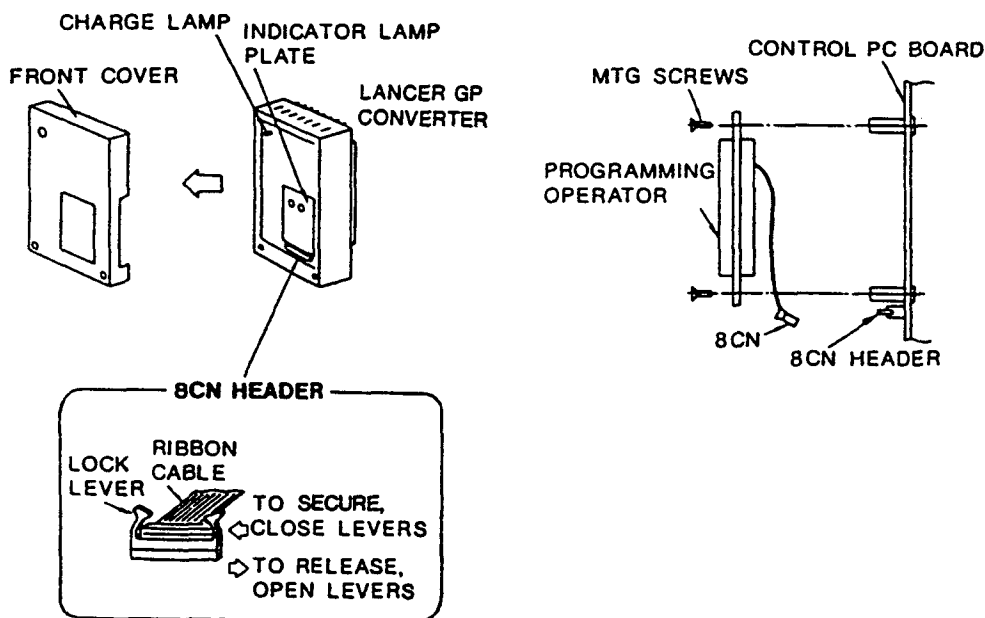

Figure 2. Installation
3. See Figure 2. Remove the indicator lamp plate from the Drive by removing three mounting screws.